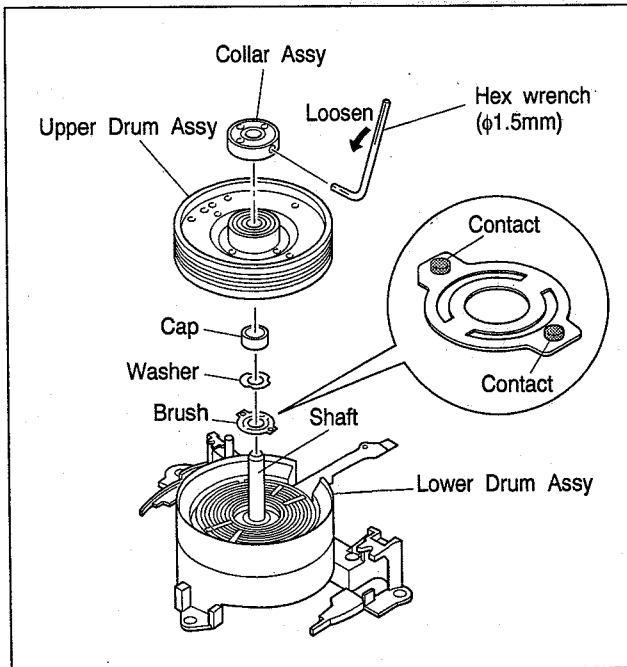

Fig. 2-5-25
- (1) Use an air brush to clean the lower drum assy and the coil section of the new upper drum assy.
- (2) Set a new washer on the drum shaft as indicated in Fig.2-5-25.